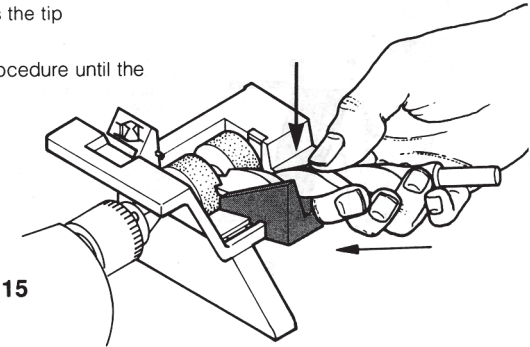
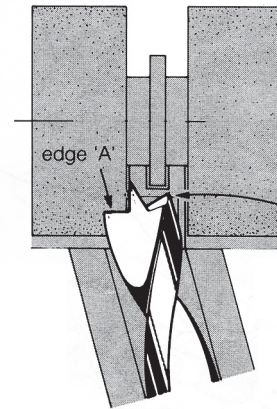

fig. 15
fig. 16
- Remove the bit and turn on the power drill. Feed the bit towards the wheel as above until 'A' (fig. 16) makes contact with the wheel. Maintain a light pressure on the bit and sharpen for **no more than 30 seconds** at a time; this avoids the tip overheating.
- With the power to the drill off, practise positioning the drill bit. Slowly feed the bit into the channel on the guide (fig. 15), with a **downward** pressure on the bit (to maintain contact with the walls of the channel) and the outer tips positioned as in fig. 16 (see p16). As the bit gets very near the grinding wheel, turn the bit slightly **clockwise** until the **right-hand** outer tip just touches the channel face (arrowed on fig. 16) at the front of the guide. Do not over-turn; this will cause